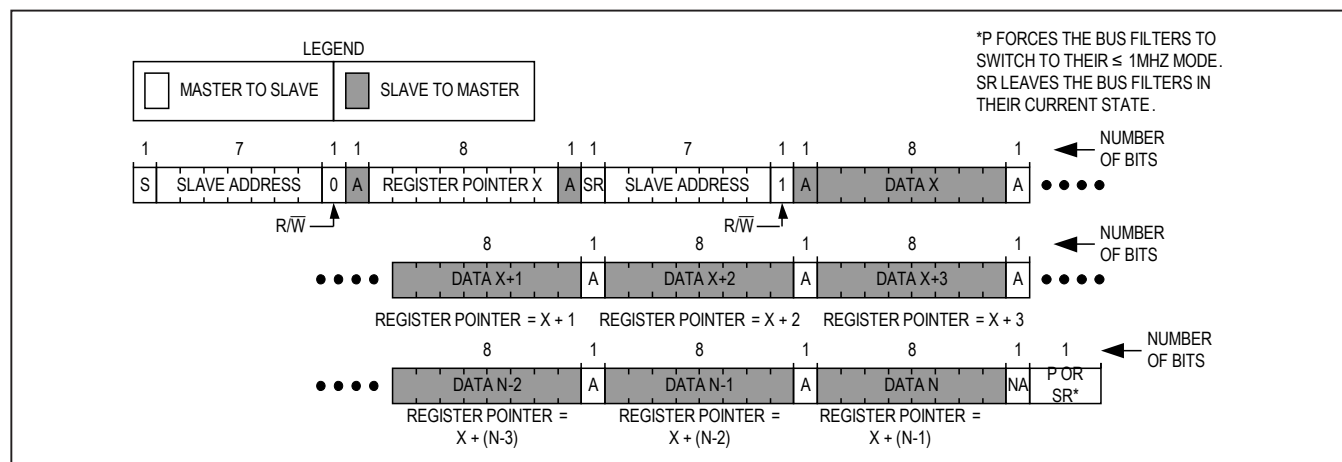

Figure 9. Reading Continuously from Sequential Registers X to N
Figure 9 shows the protocol for reading from sequential registers. This protocol is similar to the read byte protocol except the master issues an acknowledge to signal the slave that it wants more data: when the master has all the data it requires it issues a not acknowledge (nA) and a stop (P) to end the transmission. The continuous read from sequential registers protocol is as follows:
- 1) The master sends a start command (S).
- 3) The addressed slave asserts an acknowledge (A) by pulling SDA low.